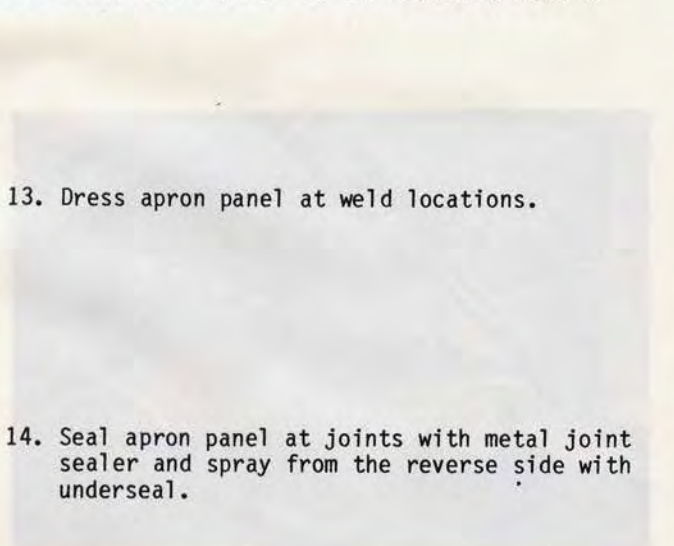

Fig.72. Braze apron panel at the corners.
12. Braze apron panel at the corners, Fig.72.